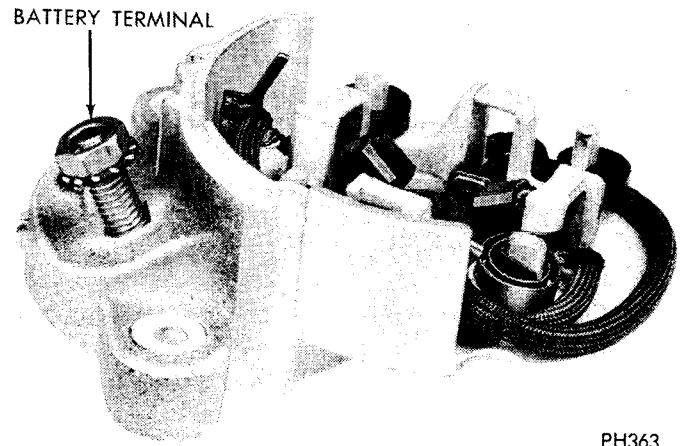

Fig. 11—Removing Battery Terminal Nut and Washer
(12) On brush plate remove nut from battery terminal and remove terminal, (Fig. 11).